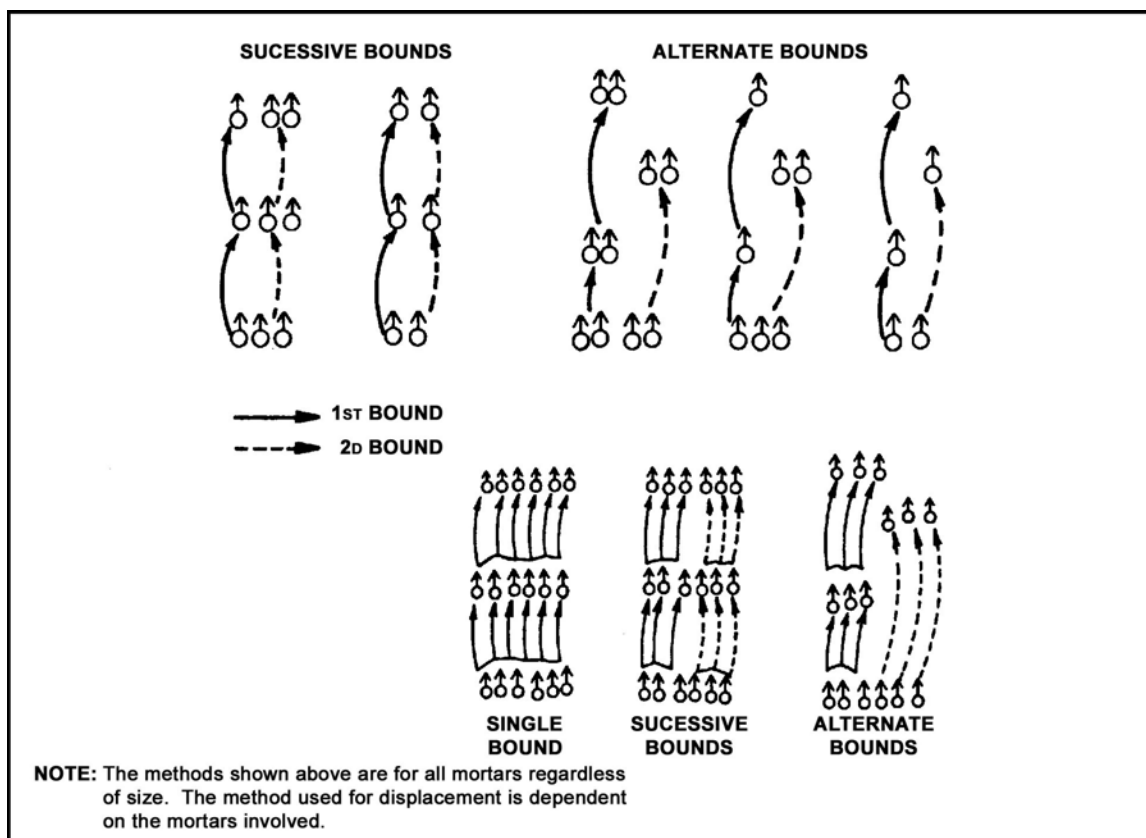

Figure 1. Displacement Methods
2. Displacement by platoon. The platoon displaces all of its mortars in one move. This is the fastest way to displace the platoon; however, the platoon cannot provide immediate responsive fire support while moving. If it becomes necessary to fire during movement, emergency techniques of engagement are used. Displacement by platoon should be used only when there is little likelihood of enemy contact or when supporting artillery units can provide adequate support during displacement (Figure 1).